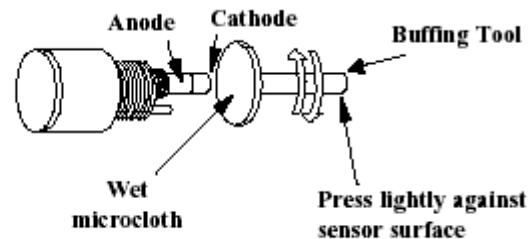

Figure 6
#### **Anode Cleaning Procedures** (See figure 6)
- \_ Twist the buffing tool back and forth three times in opposite directions while lightly pressing the buffing tool against the sensor surface (see figure 6).